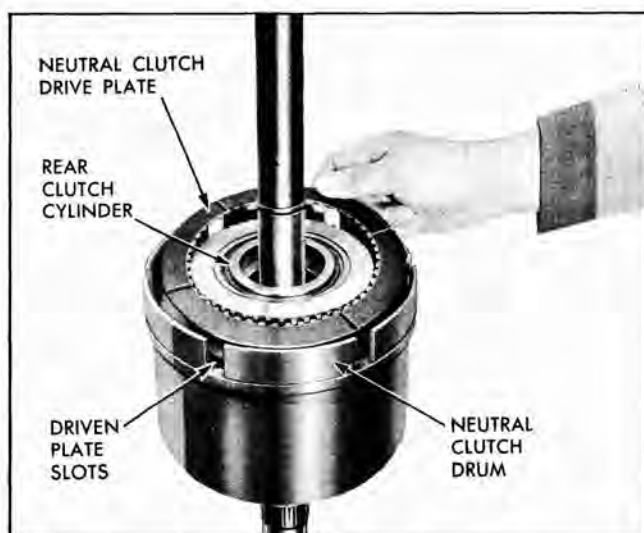

Fig. 96 Installing Neutral Clutch Plates
24. Install neutral clutch drum on rear unit with driven clutch plate lug slots up (Fig. 96).
25. Apply Hydra-Matic oil to five clutch drive plates (composition) and four driven plates (steel) (Fig. 96).